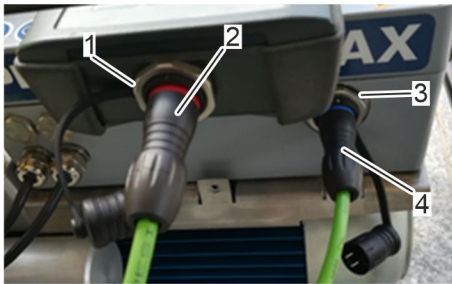

Fig. 7: Connecting the adapter cable
1. ➤ Connect the red bushing of the adapter cable (Fig. 7/2) to the control unit (BE) (Fig. 7/1).
2. ➤ Plug the blue plug of the adapter cable (Fig. 7/3) into the documentation and service interface of the hydraulic power pack (Fig. 7/4).